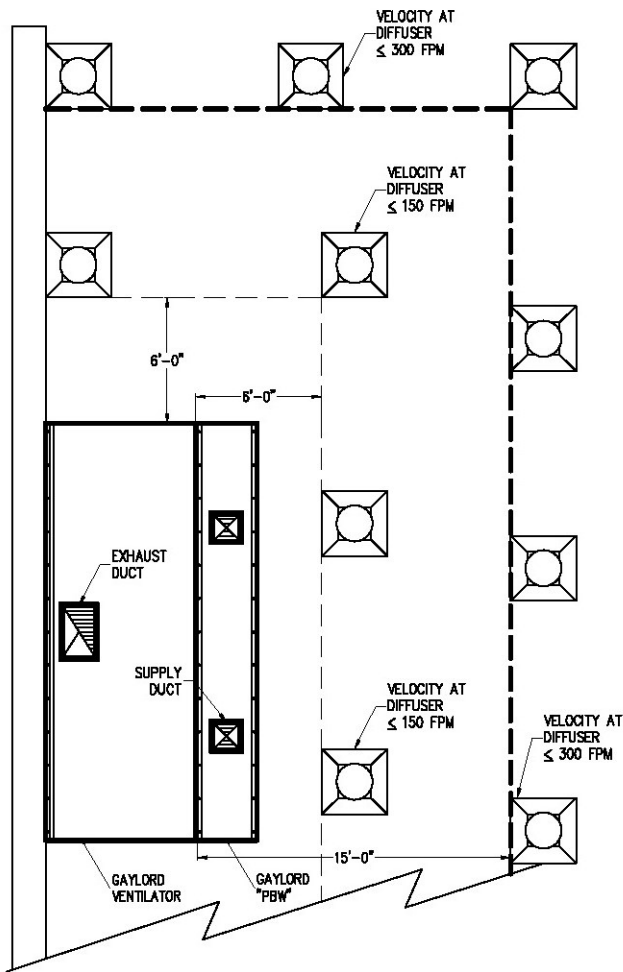

Figure 4-6-1
- 1) Gaylord Plenum Boxes Model PBW shall be located immediately in front of the Ventilator, a minimum of 18" from the lower lip of the Ventilator to the discharge surface of the Plenum Box. (refer to Figures 4-6-1 and 4-6-2).
- 1) Ceiling diffusers shall be at least 15'-0" away from all sides of the Ventilator and the outlet velocity at the diffusers shall not exceed 300 Feet per Minute (FPM) (Refer to Figure 4-6-1).